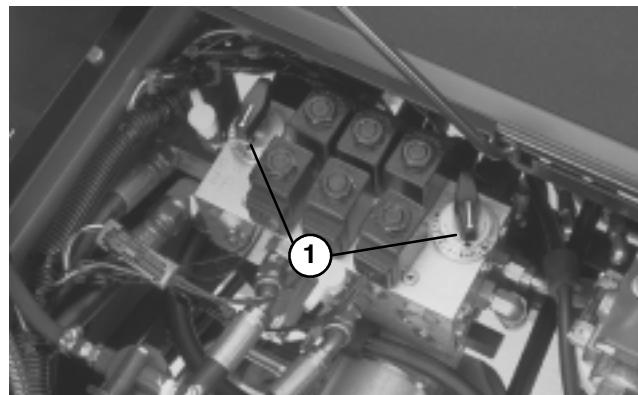

Figure 33
## SETTING REEL SPEED (Fig. 33)
4. To set reel speed, rotate knobs (Fig. 33) until indicator arrows are in line with the number designating desired setting.